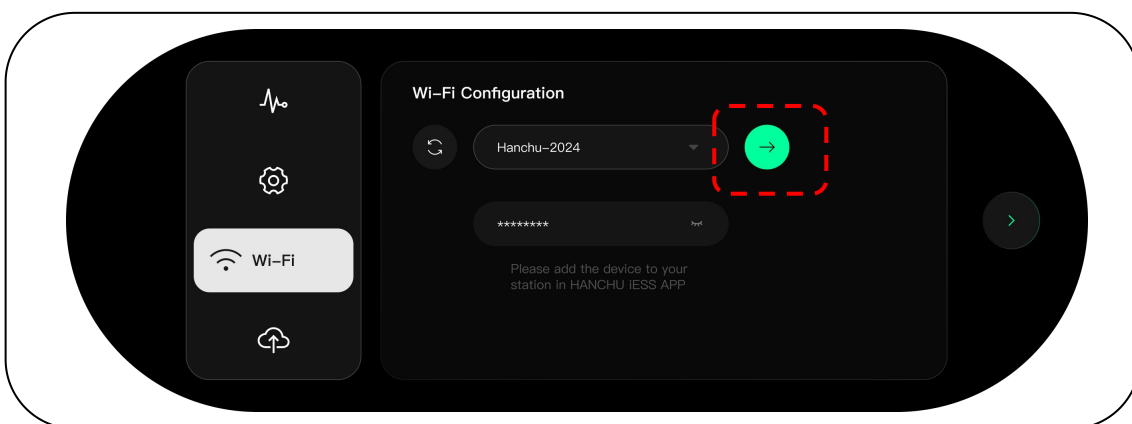

Figure 57
- 3) Enter the password and click Confirm, as shown in Figure 57.